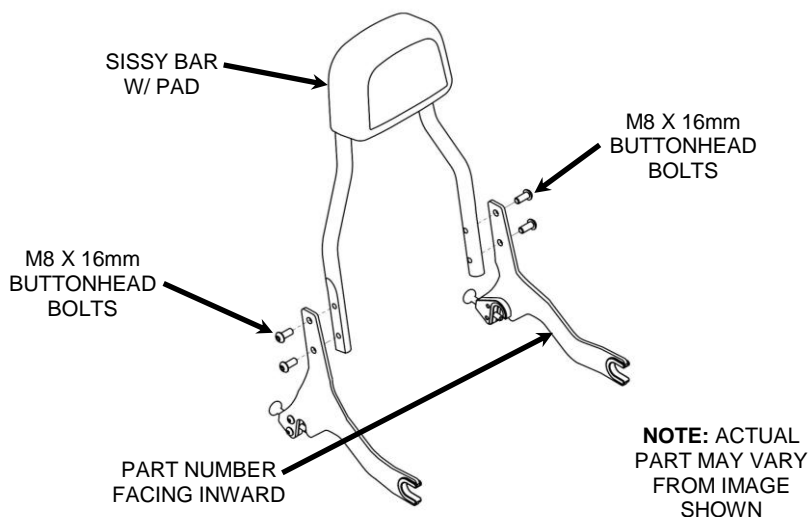

FIGURE 4
6. Install the supplied side plates on to the sissy bar with the four M8 X 16mm button head bolts. Make sure the u-shaped grommets are facing the same direction as the sissy bar pad and the part numbers are facing inward. See **FIGURE 4**. Snug the bolts but **DO NOT TIGHTEN** at this time.